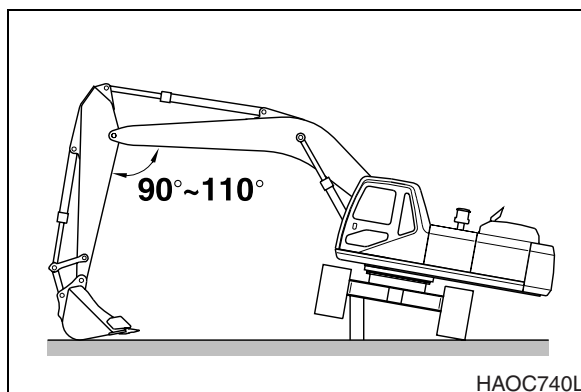

Figure 96
1. Track tension is checked by jacking up one side of the excavator. See Figure 96. Place blocking under frame while taking measurement.